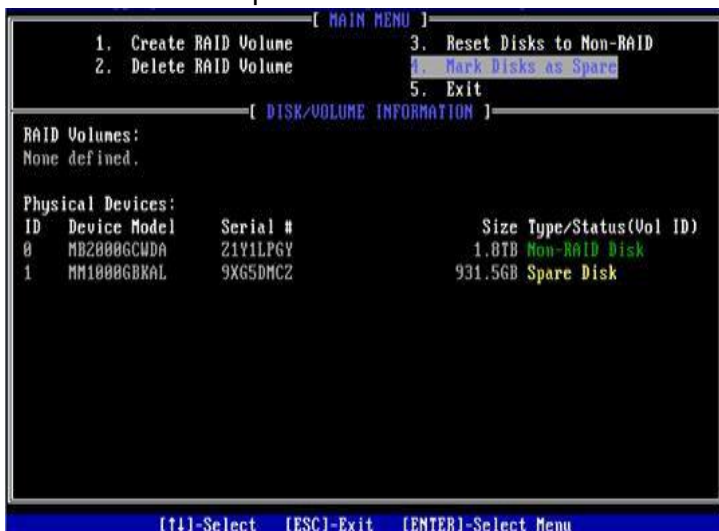

Figure 6-22
- d) In the RSTe configuration interface, you can see the hot spare disk information, as shown in Figure 6-22.
✧ Figure 6-22 View hot spare disk information on the RSTe configuration interface